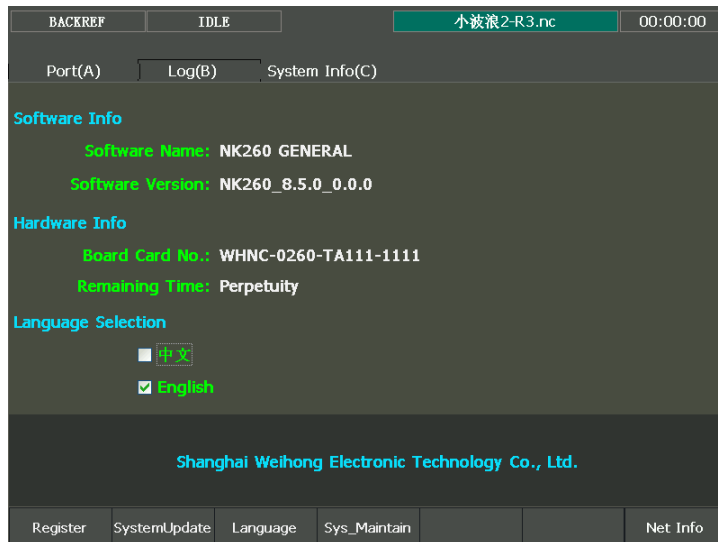

Fig. 3-52 System Info Screen
As shown in Fig. 3-52, view the related information (including CNC software information and CNC hardware information) of NcStudio in [System Info (C)] screen of [System] function section. Pressing letter key C will enter [System Info] function screen.
- 1) Learn the info of board card no. in [System Info (C)] of [System]. See Fig. 3-52.